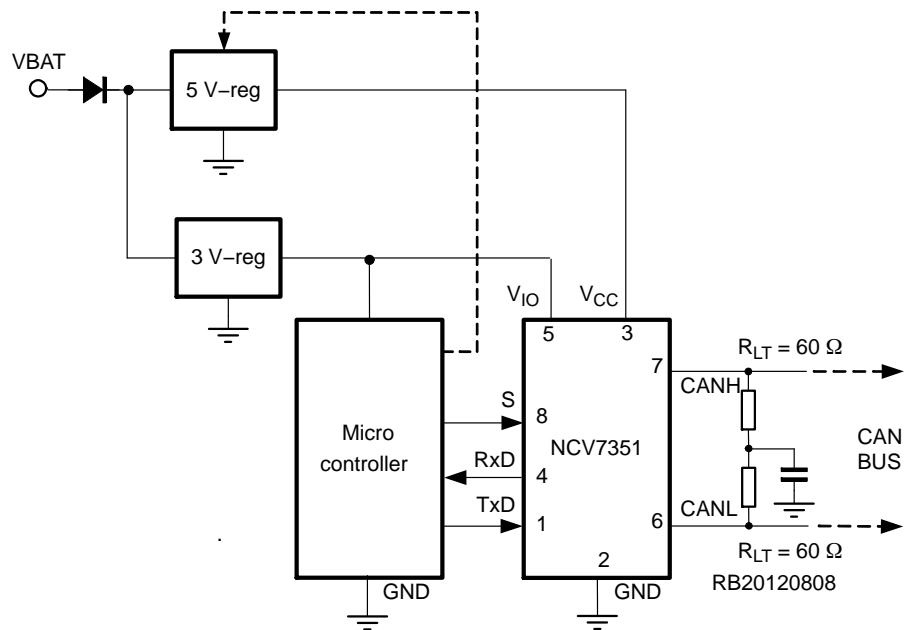

Figure 2. NCV7351-3 Application Diagram
**NCV7351-3:** Pin 5 is  $V_{IO}$  pin, which is supply pin for transceiver digital inputs/output (supplying pins TxD, RxD, S, EN). The  $V_{IO}$  pin should be connected to microcontroller supply pin. By using  $V_{IO}$  supply pin shared with microcontroller the I/O levels between microcontroller and transceiver are properly adjusted. This allows in applications with microcontroller supply down to 3 V to easy communicate with the transceiver. (See Figure 2)